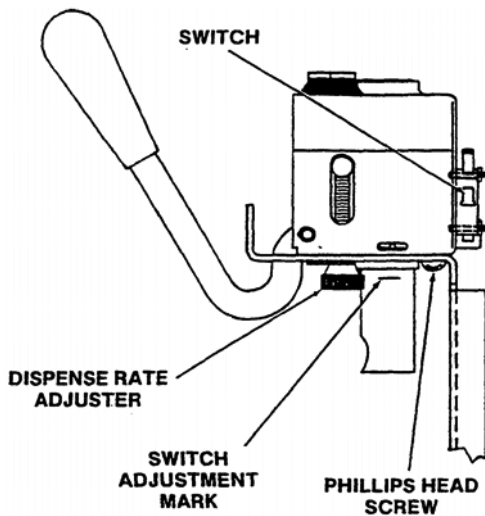

Figure 6-8 Spigot Switch Replacement
3. Remove the dispense rate adjuster knob located below the header panel. (Refer to Figure 6-8)